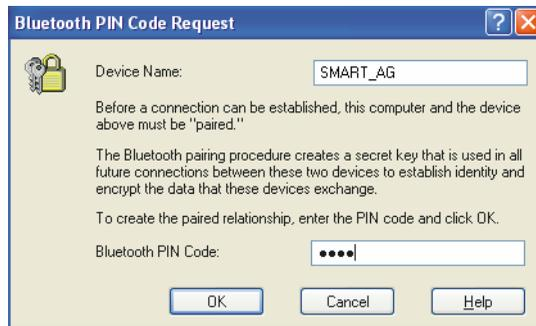

Figure 24: Bluetooth PIN Code Request
3. Enter the SMART-AG default pin number of four zeroes (0000), as shown in *Figure 24*: